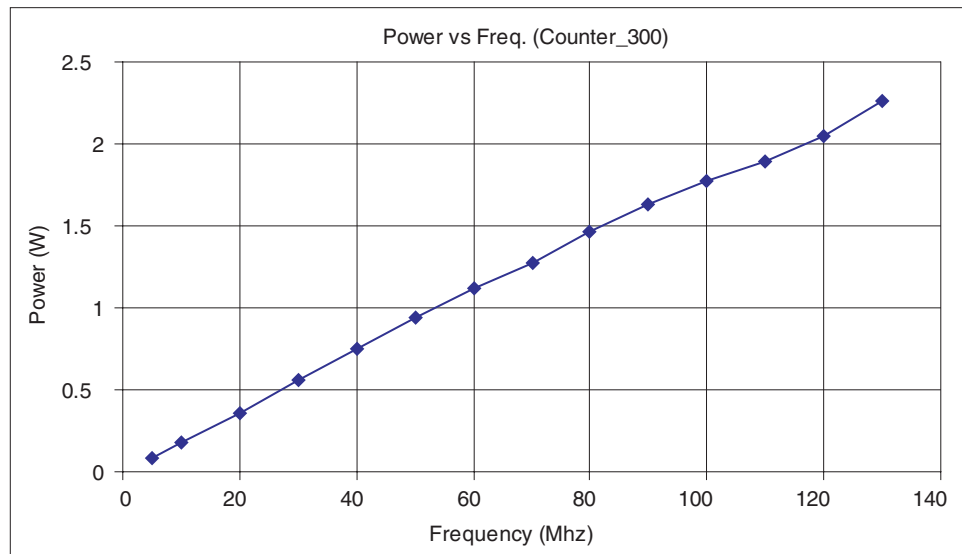

Figure 22: Power Consumption
Figure 22 exhibits the power consumption in an EclipsePlus QL7120 device. The chip was filled with (300) 8-bit counters—approximately 76% logic cell utilization.